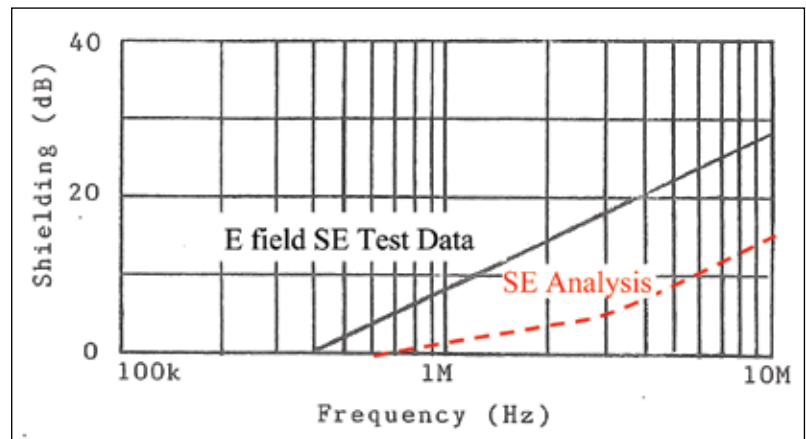

Figure 1: E Field Shielding Effectiveness Test Data versus SE Analysis of 2.0 ohm Barrier Using a Low Impedance Source 0.20 Meters from the Barrier.
Comparing the results of the analysis with the test results (as illustrated in Figures 1 and 2 and Table 1) yields significant insight into the meaning and value of the equations.
The reflective loss “ $R$ ” is derived from transmission lines as obtained using the equations associated with “wave theory.” It is assumed that the reflection coefficient ( $R$ ) using the wave theory equation on a transmission line is identical to that of when a radiated wave is reflected from a shielded barrier, where the loss is equally the same for the  $E$  and  $H$  fields. Figures 1 and 2 compare the results obtained using the “ $SE$ ”
1. The wave impedance  $Z_w$  is greater than the barrier impedance  $Z_b$ . The equation for “R” yields a reflective loss when  $Z_w < Z_b$ . As illustrated in Figure 1 and Table 1, there is not a loss of shielding under these conditions. The equation for “B” is a correction factor when  $Z_w$  is less the  $Z_b$  (as is the case at 100kHz using the low impedance source).
The third analogy of the H field being analogous to the reflected current is the justification for the wave being "partially re-reflected at the inner surface." As is illustrated in Figure 1 and Table 1, there is no predicted or measured shielding effectiveness (using the SE equations) when  $Z_w < Z_b$ . Therefore, the argument for a reflected wave inside the barrier is not valid, and does not exist.